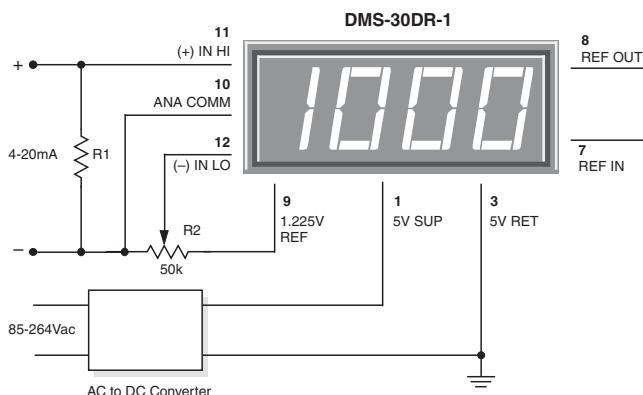

Figure 7. 4-to-20mA Current Loop Operation
5. Process Control (4-to-20mA) Measurements: In many common process-control applications, a 4-to-20mA current loop is used to transmit information. Because DMS-30DR meters have such high input impedance, a simple shunt resistor across the meter's input can be used to convert the loop current to a voltage. See Figure 7. The value of the shunt resistor is a function of the scaling requirements of the particular application and can be calculated using the following equation:
To calibrate the circuit of Figure 7, perform the following: